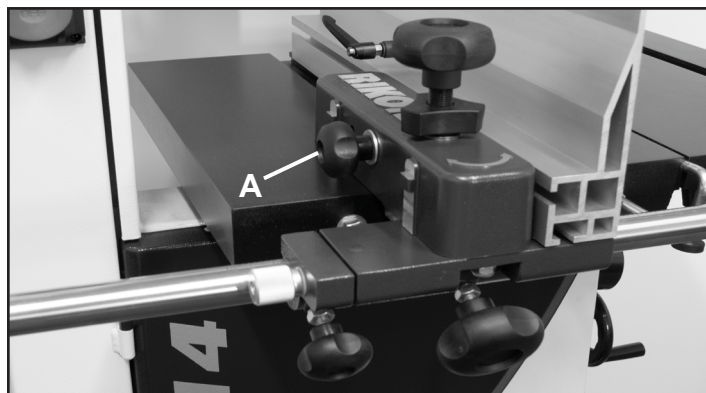

FIGURE 6
2. Slide the Fence Carrier Assembly onto the fence's guide rail. Fig. 6.
3. Slide the Rip Fence (#12F) onto the fence carrier, and lock it in place by tightening the fence lock Knob (#1F) which is located on the carrier, opposite side to the fence. Fig. 6, A.